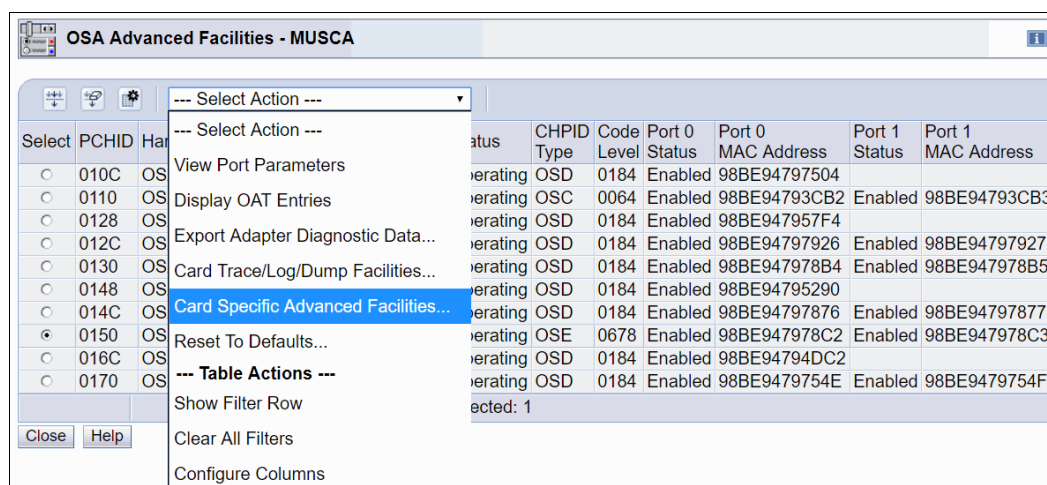

Figure 6-6 Entering OSA/SF on the HMC
2. The OSA Advanced Facilities window opens (see Figure 6-6). Select the OSE channel PCHID that you want to customize. In this example, we selected **PCHID 0174**. Then, select **Select Action** → **Card specific advanced facilities**, as shown in Figure 6-6.